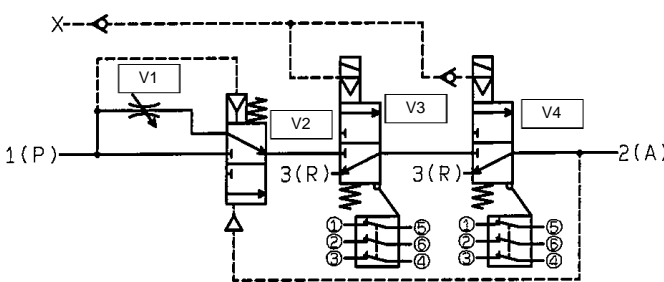
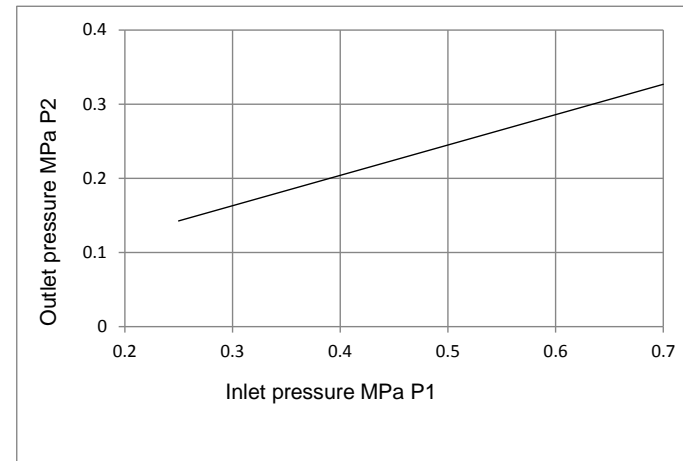

Figure 9. External pilot (Rockwell switch variant shown for reference)
Figure 10. Switching pressure (Close → Open) of soft start-up valve V2
In a safety related application, the machine safety system will energise the safety valves (V3 and V4 in Figure 9) when the machine is safe to operate. When both valves are energised air will flow into the protected system via port 2 (A). The flow is initially limited by needle valve V1 and pressure in the protected system will remain low as the system fills or actuators move slowly. The pressure will eventually rise as the system becomes full or the actuators stop moving. As P2 pressure increases (see Figure 10) valve V2 switches and valve V1 is by-passed. In this condition air will flow into the protected system according to the figures given in section 2.3.